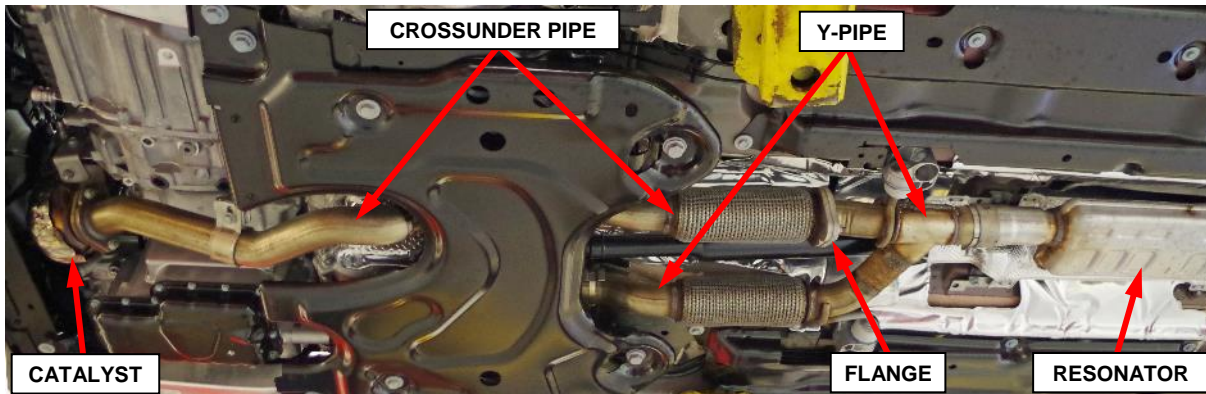

Figure 56 – Exhaust Crossunder Pipe and Y-Pipe
42. **3.2L Engine:** Remove the exhaust crossunder pipe and Y-pipe following steps (a-m) (Figure 56).
d. Remove the crossunder pipe from the vehicle (Figure 56).